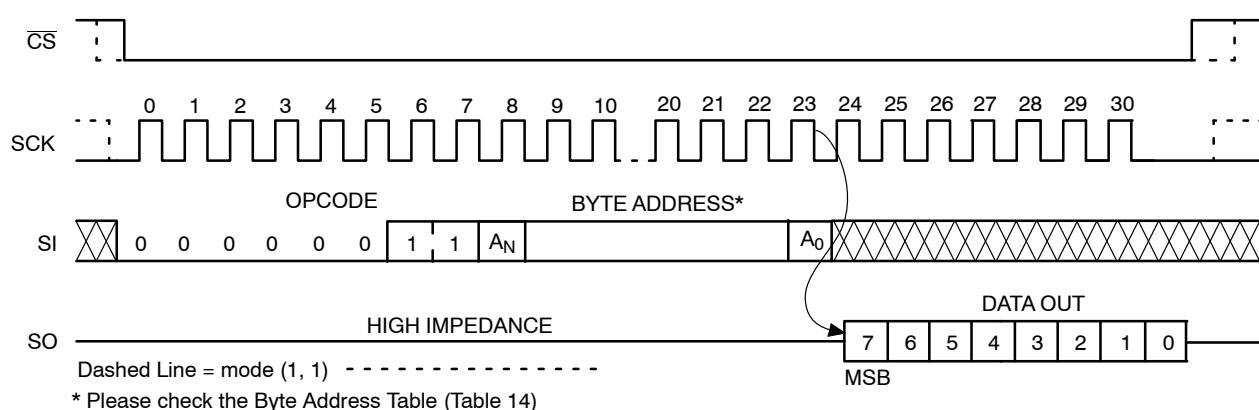

Figure 9. READ Timing
After receiving the last address bit, the CAT25128 will respond by shifting out data on the SO pin (as shown in Figure 9). Sequentially stored data can be read out by simply continuing to run the clock. The internal address pointer is automatically incremented to the next higher address as data is shifted out. After reaching the highest memory address, the address counter “rolls over” to the lowest memory address, and the read cycle can be continued indefinitely. The read operation is terminated by taking CS high.
Reading the additional 64-byte Identification Page (IP) is achieved using the same Read command sequence as used for Read from main memory array (Figure 9). **The IPL bit from the Status Register must be set (IPL = 1) before attempting to read from the IP.** The [A5:A0] are the address significant bits that point to the data byte shifted out on the SO pin. If the CS continues to be held low, the internal